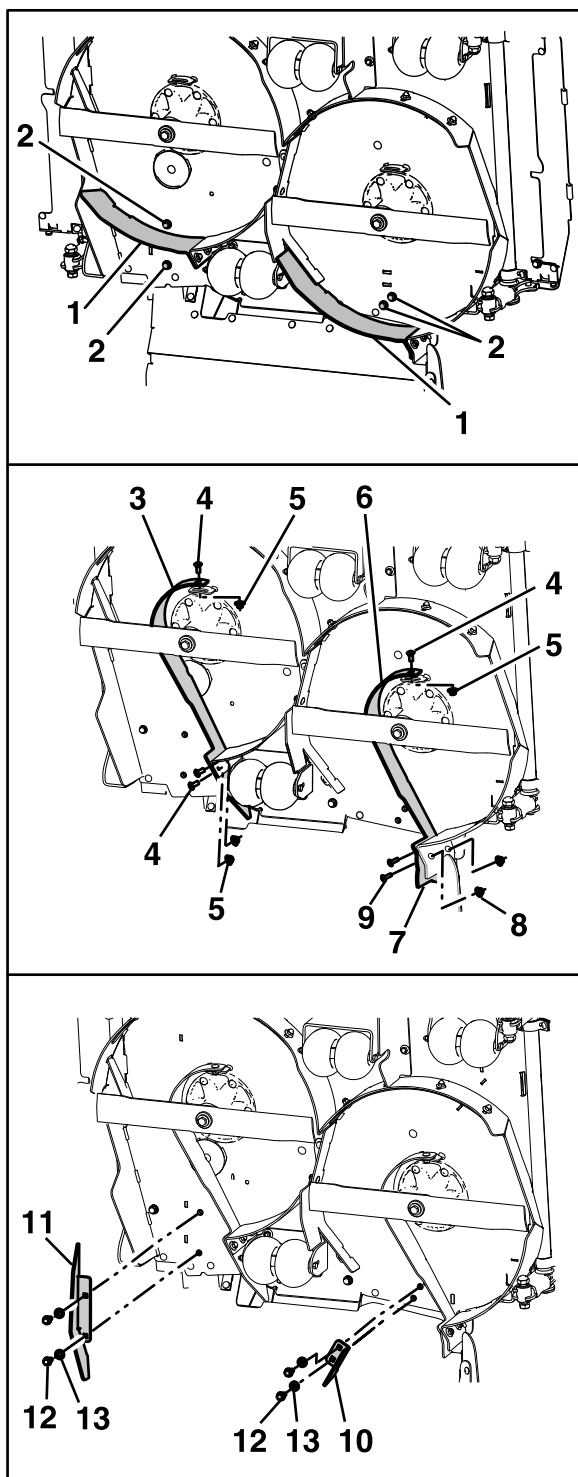

Figure 6
14. Remove and retain the two center block baffles and mounting hardware. Remove and retain the four 3/8-16 x 1 inch hex flange screws and spring disc washers as shown in Figure 6.